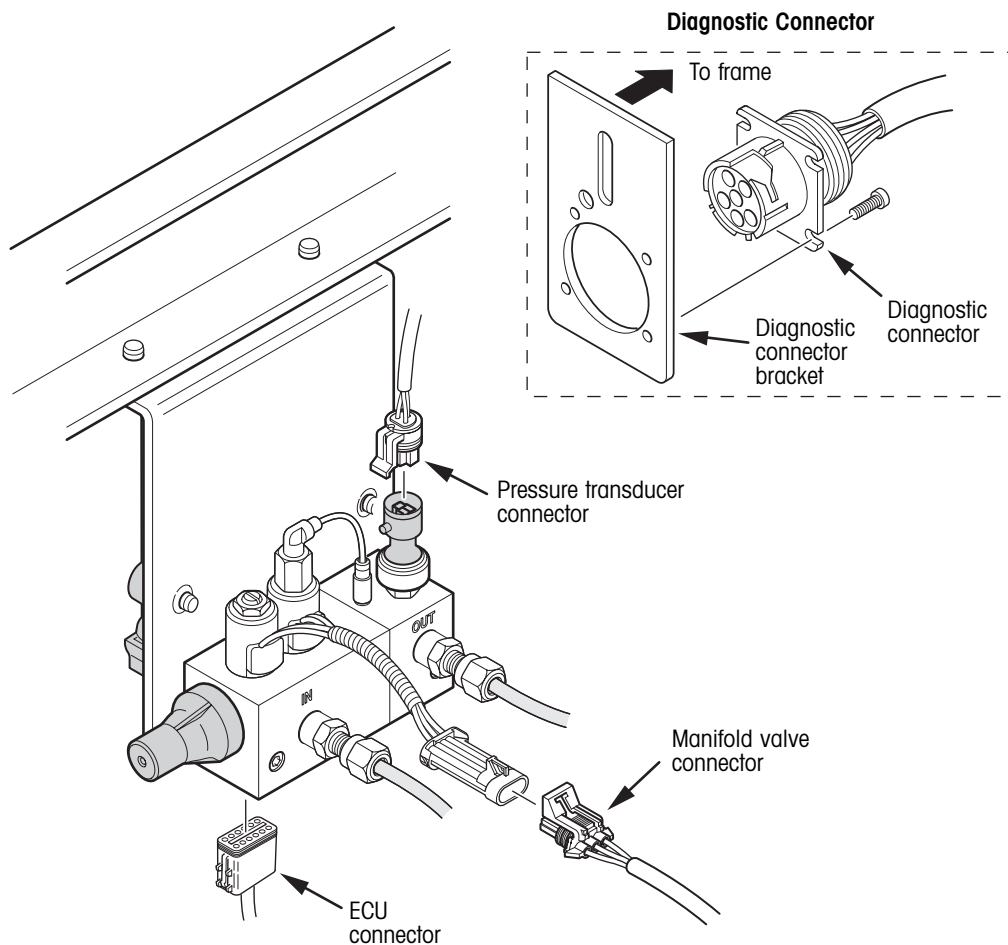

Figure 28. Wiring harness replacement
3. Disconnect the ECU connector (figure 28).